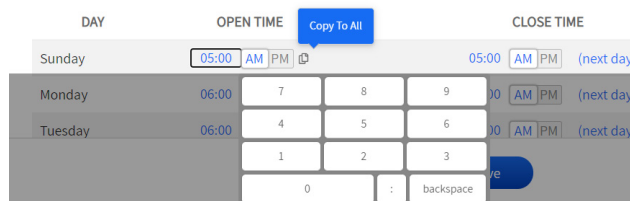

Fig. 1.12
**Time/Value Fields:** Some active areas, such as time fields, are edited by clicking on the field. When you click the cursor or tap in this field, a pop-up keypad opens (see Fig. 1.12). Use the “back-space” key to clear the field, the number keys to enter a time value, and the colon key to separate hours and minutes. Click “Copy to All” to apply this value to all active fields in the column. A “Warning” dialog will prompt you to Cancel or Confirm. Click “Confirm” to apply.